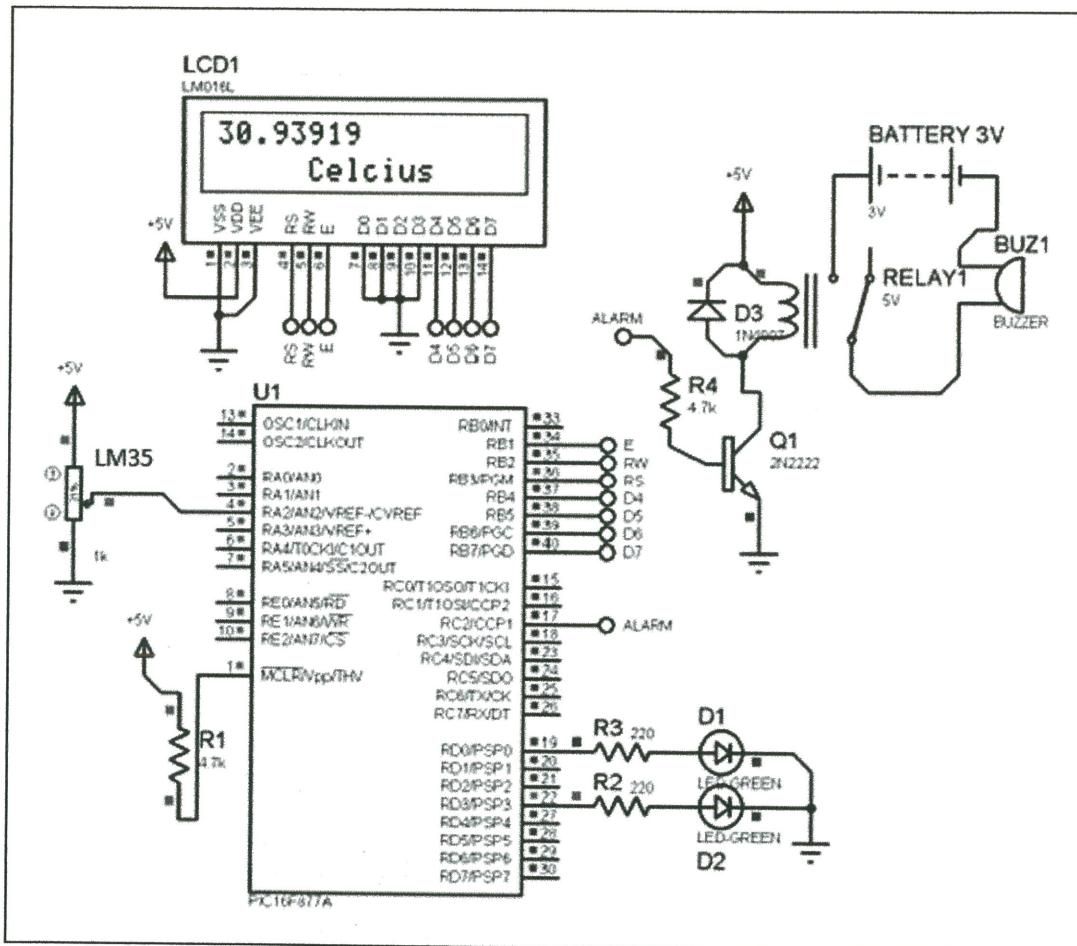

FIGURE Q5
- Q5** Write a C program for temperature application on PIC16F877A based system as shown in **Figure Q5**. The system should show the current temperature value in degree Celsius on the LCD and two LEDs should active based on the table below: